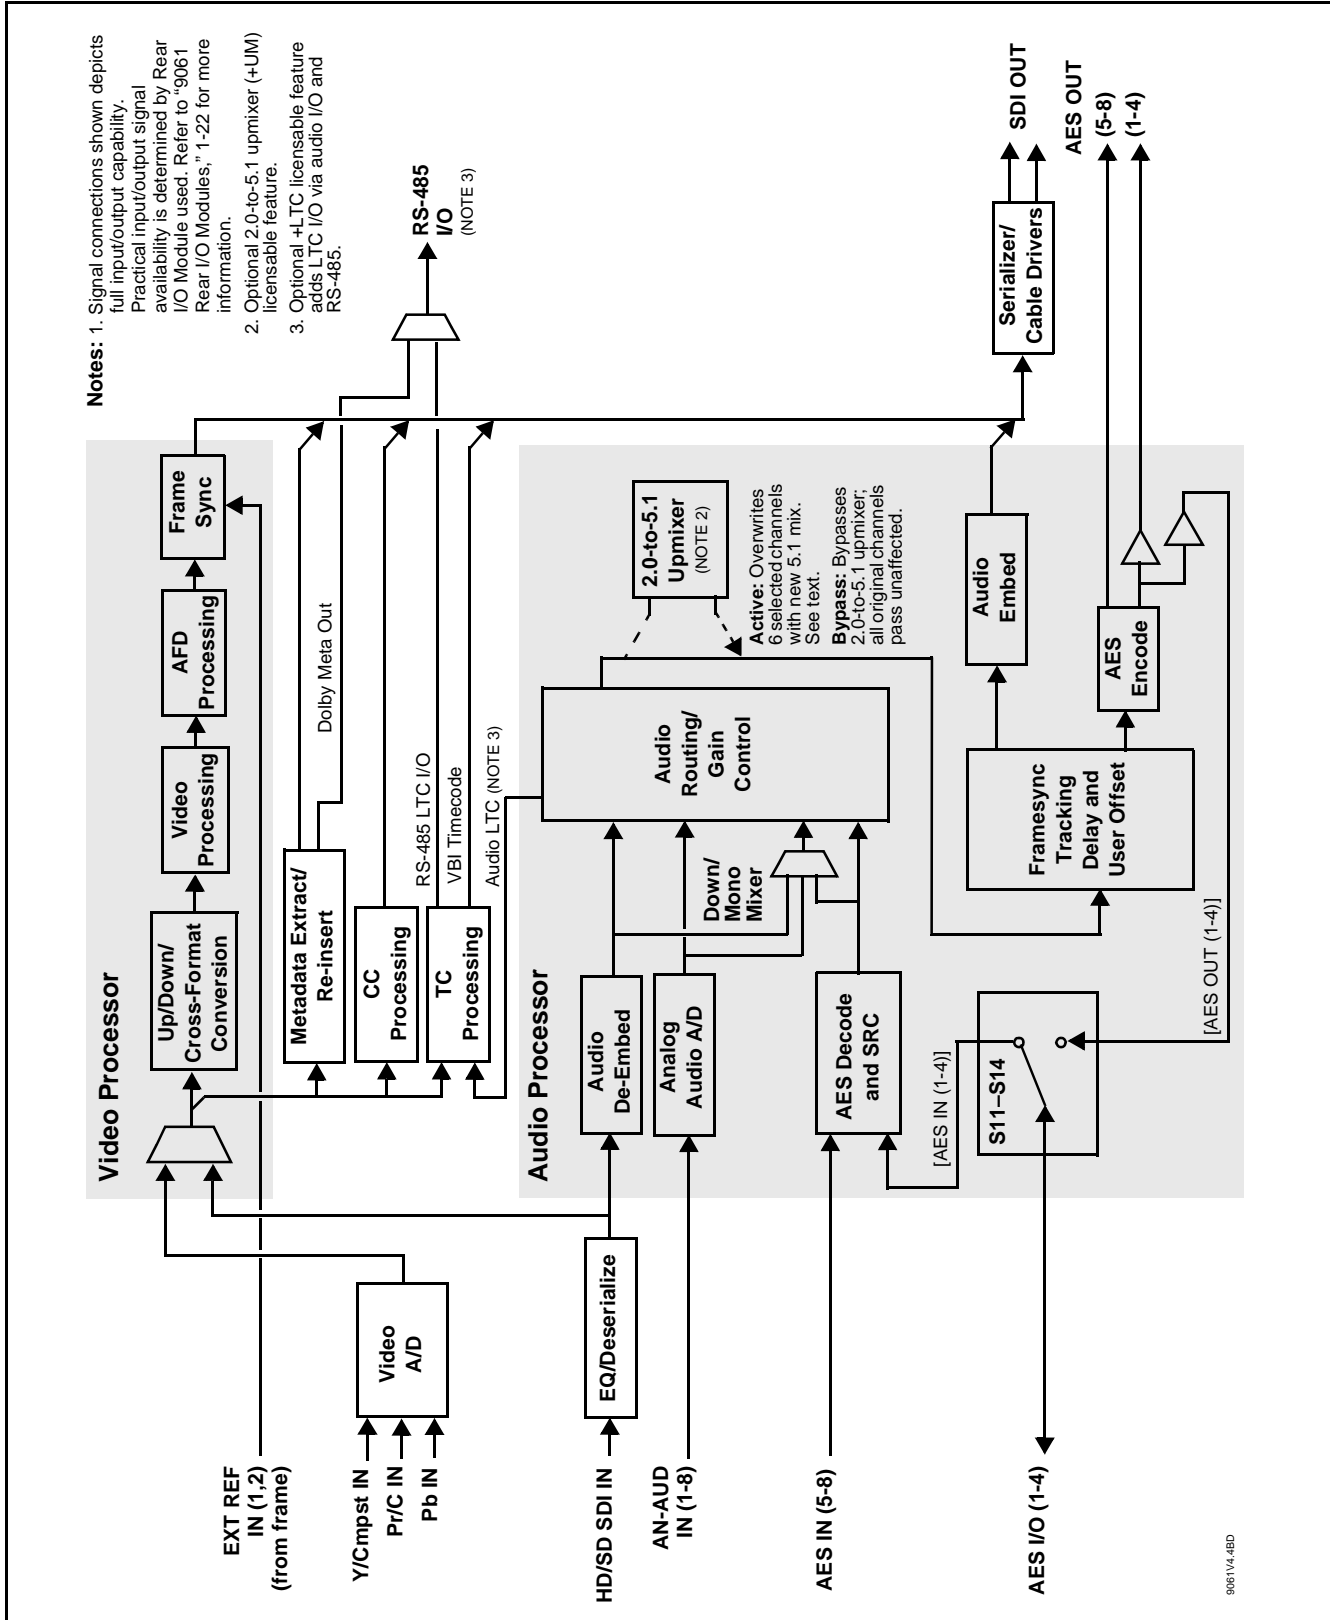

Figure 1-1 9061 Functional Block Diagram
Figure 1-1 shows a functional block diagram of the 9061. The 9061 format converter also includes a full 16-channel audio embedder/de-embedder, a 12-bit analog-to-digital video converter, an 8-channel, 24-bit balanced analog-to-digital audio converter, and a full video frame synchronizer. The 9061 also handles AFD code detection and processing, timecode support, closed captioning support, and transfer of Dolby® metadata.
**Note:** As shown in Figure 1-1, the 9061 is equipped with eight discrete AES input pair ports and eight discrete AES output pair ports. On Rear I/O Modules having limited AES I/O capabilities, switches S11 thru S14 allow available rear module BNC connectors to be allotted between AES inputs and outputs as desired. Buffered copies of **AES OUT (1-4)** are available as dedicated outputs and as respective outputs fed through S11 – S14 on the 9061 card.